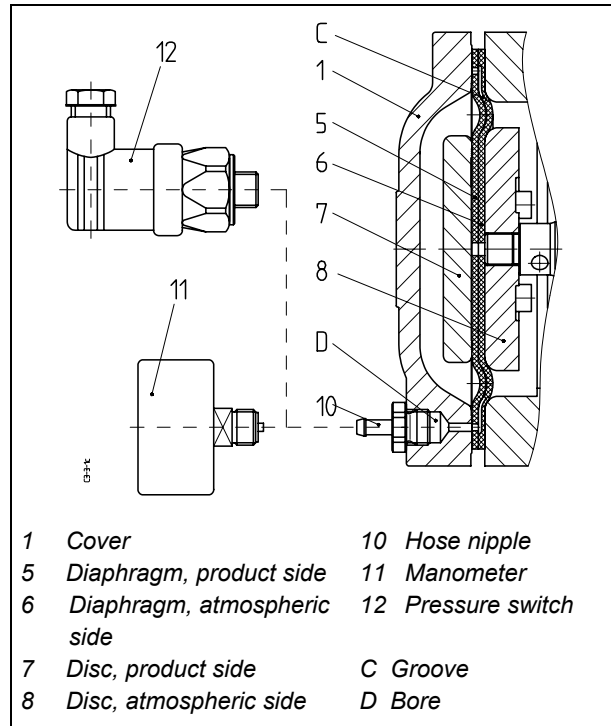

Fig. 3.3: Diaphragm rupture monitoring device
The two diaphragms (5, 6) of the double diaphragm arrangement (*Fig. 3.3*) are clamped between the product side (7) and atmospheric side (8) discs so that their annular corrugations lie inside one another.
In the fitted state (*Fig. 3.3*), there is a connection from the inner contact area between the two diaphragms via a groove (C) in the atmospheric side diaphragm (6), a bore in the product side diaphragm (5) and a bore (D) in the cover (1) to the hose nipple (10), the manometer (11) or the pressure switch (12).